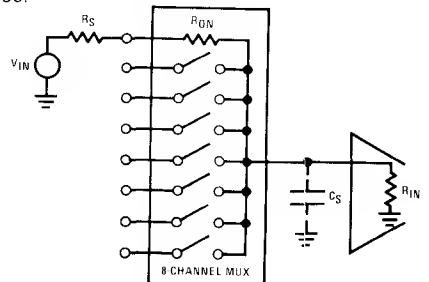

FIGURE 6. 8-Channel MUX
1. Multiplexer's Influence on System Accuracy (Figure 6).
a. The error, (E), caused by the finite "ON" resistance, R_{ON} , of the multiplexing switches is given by:
C_S (Figure 6): MUX output capacitance + following stage input capacitance + any stray capacitance at this node.